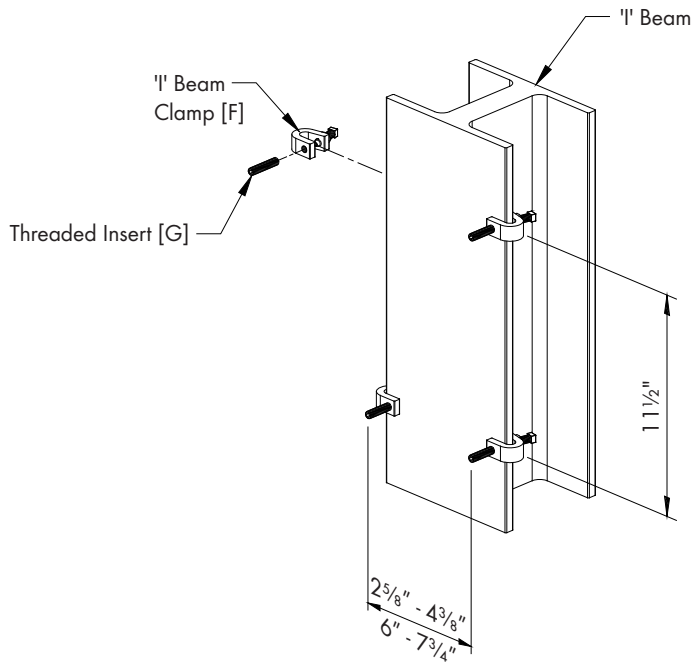

Figure 5
Thread Threaded Insert [G] into 'I' Beam Clamp [F] so it is flush on the inside of clamp. Attach (4) 'I' Beam Clamps [F] to beam by tightening square headed bolt. 'I' Beam Clamps [F] should be spaced  $1\ 1\frac{1}{2}$ " center-to-center. The Threaded Insert [G] that the mounting plate assembly mounts to can be  $2\frac{5}{8}$ " -  $4\frac{3}{8}$ " O.C. or  $6$ " -  $7\frac{3}{4}$ " O.C. See Figure 5.